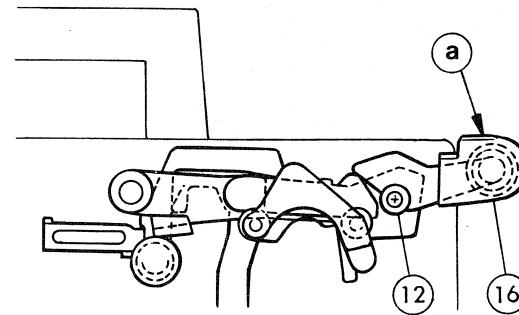

Fig. 22
\* Measurement of spring tension of ⑬: Turn the main knob to OFF, and take measurement at ④ point in Fig. 22 by using a bar spring scale (C043).